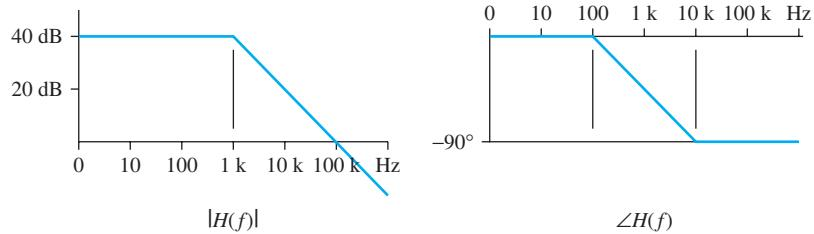

FIGURE 7.10 Bode plot for Example 7.6.
A filter has the transfer function as given by the Bode plots in Figure 7.10. Note: This is an active filter because of the amplification (see Chapters 8 and 11).
As can be seen in the magnitude Bode plot, shown in Figure 7.10, the gain at low frequencies is not unity (0 dB). It is 40 dB or 100 dB. The transfer function needs to express this amplification. Thus, $H_0 = 100$, and
- b. $x(t)$ includes two signals with two frequencies 100 Hz and 10 kHz. The gain at 100 Hz is $100\angle 0^\circ$ (see Figure 7.10); now, because the corresponding phasor is $3\angle -15^\circ$, the output phasor is $3\angle -15^\circ \times 100\angle 0^\circ = 300\angle -15^\circ$. The gain at 10 kHz is $10\angle -90^\circ$; thus, $1\angle 45^\circ \times 10\angle -90^\circ = 10\angle -45^\circ$. Accordingly, the total output signal is: